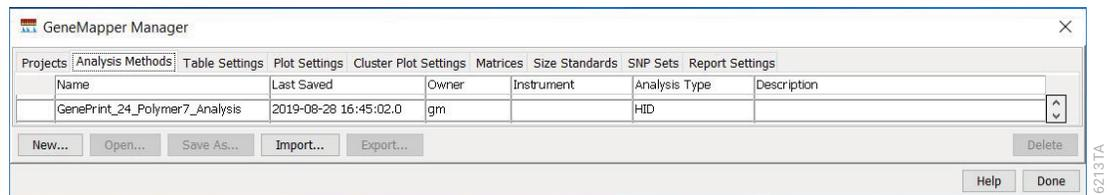

Figure 25. The *GenePrint* 24 Analysis Method will have “HID” as the analysis type.
4. Note that this method will have “HID” as the analysis type (Figure 25).